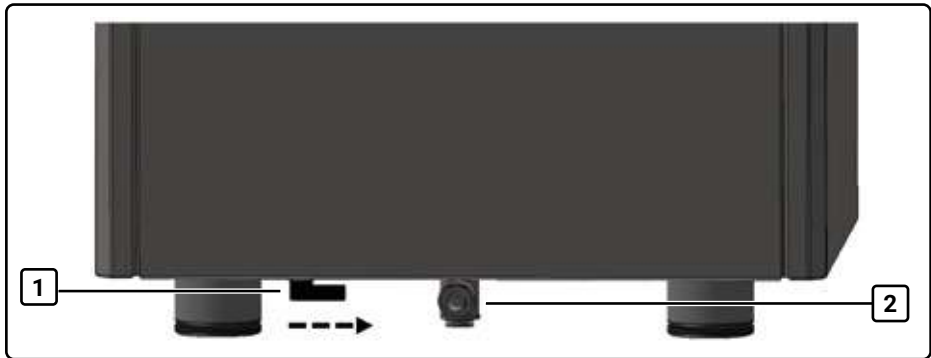

Fig. 4 Rear view with rotary valve and water connection nozzle
1. Move the rotary valve (1, Fig. 4) into the tank mode position. The valve points towards the water connection nozzle (2, Fig. 4).